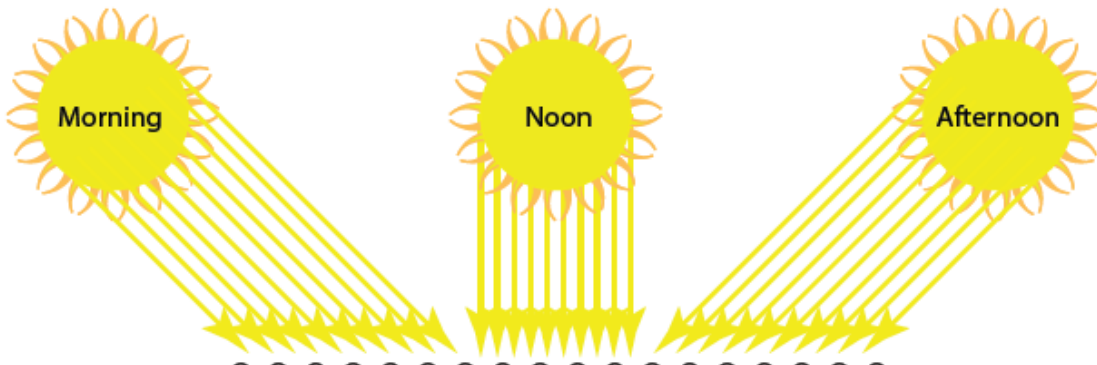
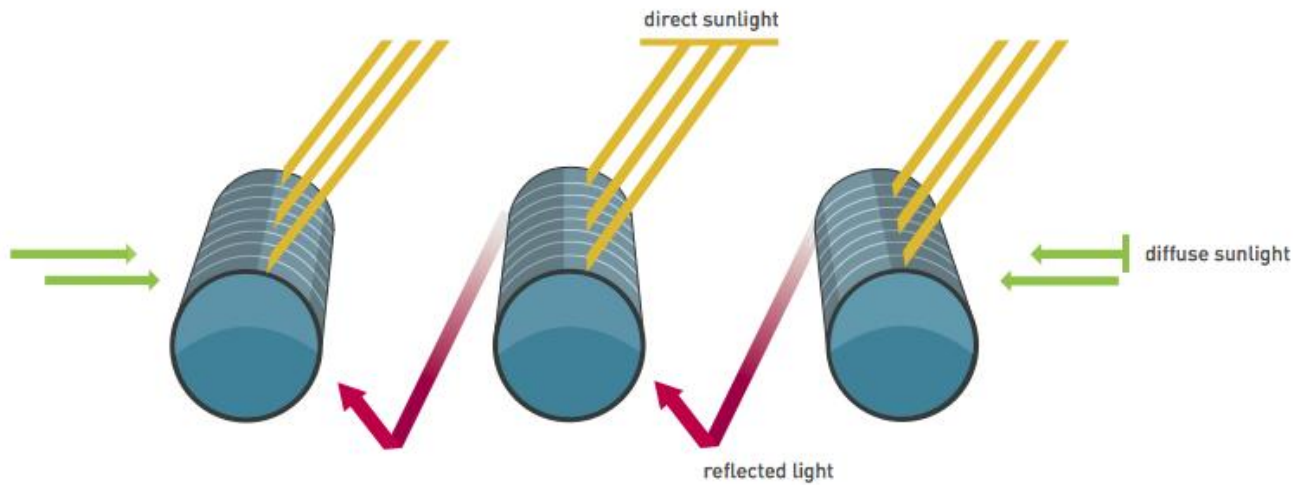
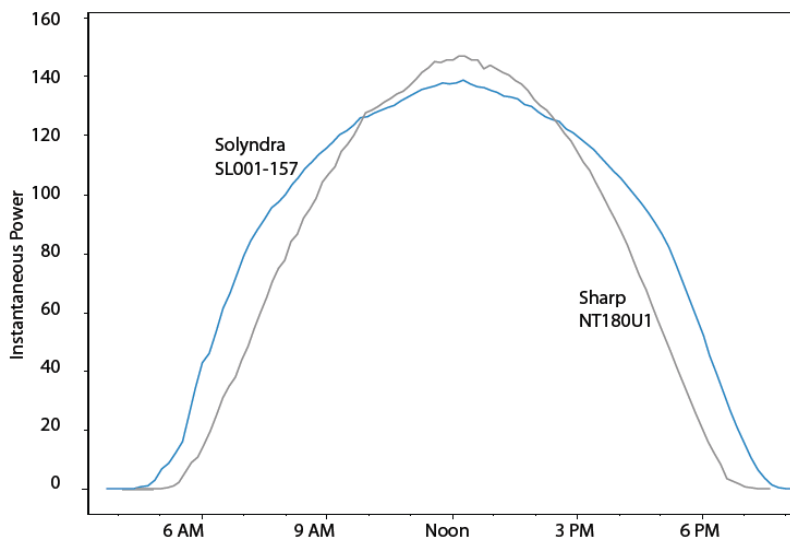

Figure 4.1: Passive Self Tracking of the Cylindrical Shape³
Figure 4.2: Three Ways of Collecting Sunlight⁴
Figure 4.3: Solyndra Power Production⁵
The Living Light house makes use of an innovative design in photovoltaic (PV) power through the use of copper, indium, gallium, and selenium (CIGS) technology. The CIGS film is wrapped in a cylindrical shape that provides a passive self tracking system for collecting direct sunlight from morning to evening as the sun moves across the sky. (Figure 4.1) Additionally, the cylindrical shape allows for maximum collection of diffuse sunlight and sunlight reflected off of the white reflective cool roof. (Figure 4.2) Because this type of PV cell collects more sunlight in the early morning and evening hours than a traditional flat plate collector, a cylindrically shaped PV cell will generate more power throughout the course of a day than a traditional fixed flat plate collector. (Figure 4.3)